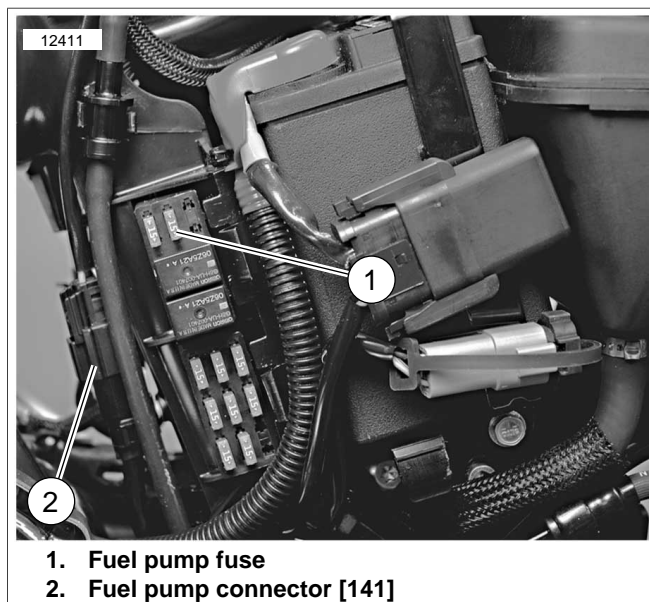

Figure 4-3. Fuel Pump Fuse and Connector
- b. See Figure 4-3. Remove fuel pump fuse (1) located in fuse panel in front of battery.
5. See Figure 4-3. Unplug fuel pump connector (2) [141].